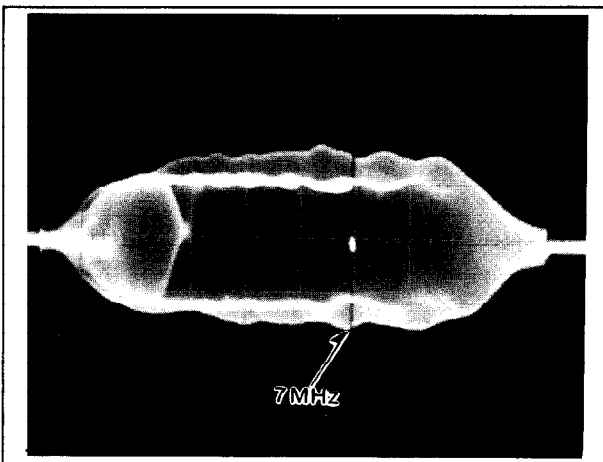

Fig. E8
5. Adjust VR3004 so that the peak frequency becoems 7.0+-0.2MHz as shown in Fig.E8.